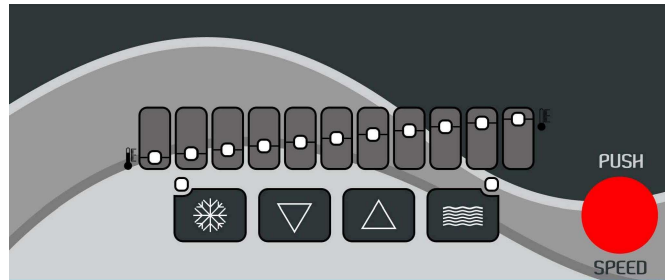

Fig. 6
- Activate the FROZEN mode by switching on the snowflake button (LED activated), and regulate the product consistency by setting its value with the ▼ e ▲ buttons (fig.6).
- In order to modify the product consistency, regulate it using the buttons ▼ and ▲ on the control board. Operating on the ▲ button, the number of lighted LED will increase with the product consistency; operating on the ▼ button, the number of lighted LED will decrease with the product consistency (fig.6).
If it is necessary to accelerate the product dispensing, press the red speed button on the right (fig.6 and 6bis) before lowering the tap lever.